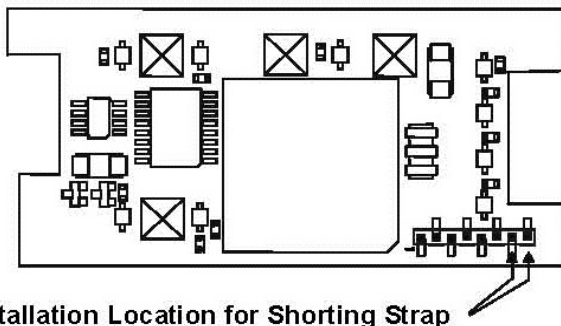

Figure 9, AP033 Logic Board
7. Adjust **DC Bal** (R36) on the probe tip (Figure 9) to obtain a DMM reading of $0\ \text{V} \pm 10\ \text{mV}$.